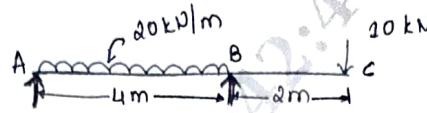

Fig.Q4
- 4 Draw shear force diagram and bending moment diagram for given beam Fig.Q4.